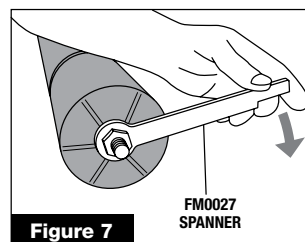

Figure 7
- 15 Screw the compression nut firmly against the element assembly (**figure 7**), using the correct spanner (Part No FM 0027).